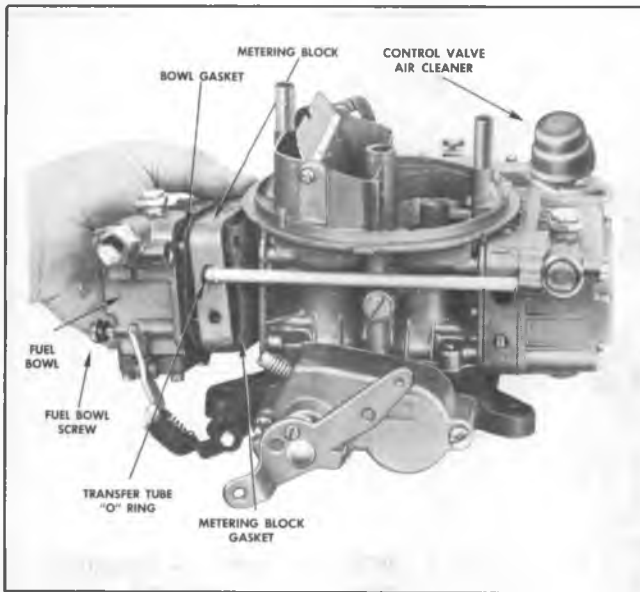

Fig. H4—Fuel Bowl Removal
1. Remove primary fuel bowl screws (4) and remove fuel bowl, metering body, splash shield and gaskets then remove fuel tube and discard tube seals (fig. H4).
2. Remove secondary fuel bowl screws (4) then remove fuel bowl, secondary metering body and remove metering body and gaskets.